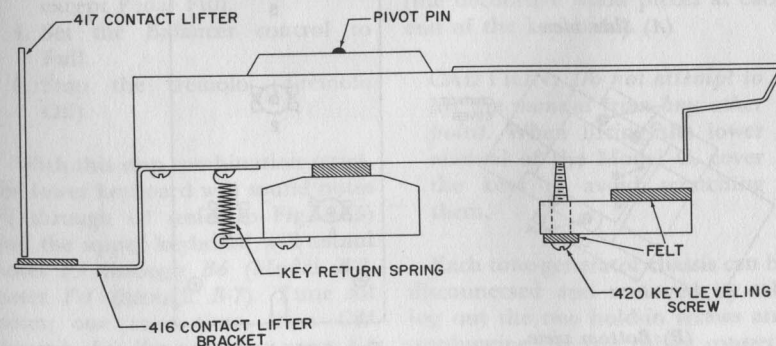

Fig. 4-22. Contact-lifter and key-leveling adjustments.
Individual contact wires should never require adjustment unless accidentally bent. Then it is generally best to rebend the wire carefully, at the point where it is attached to the Bakelite strip at the back of the key-switch assembly. Bending the wire upward will make the contact come on later; bending it down will make it come on earlier. If all contacts for a certain key come on too soon, or too late, bracket (416) (Fig. 4-22) should be bent very carefully with a pair of long-nose pliers until, with the key up, Bakelite contact lifter (417) returns to its "off" position. There should be no more than $\frac{1}{32}$ inch clearance between the lifter and bracket. Otherwise, the contacts may come on too late or operate erratically.
Key leveling is adjusted by screws (420) (Fig. 4-22) near the front and below the keyboards. These screws